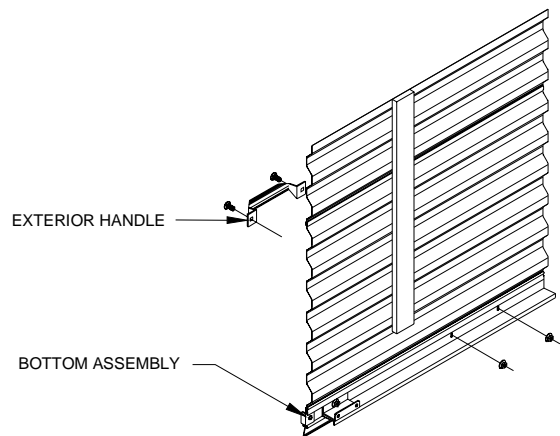

Figure 12.
9.2 Exterior Handle/Step Bar: Attach the handle to the bottom exterior edge of the door with two (2) 1/4" carriage bolts and whiz nuts provided. See Figure 12.